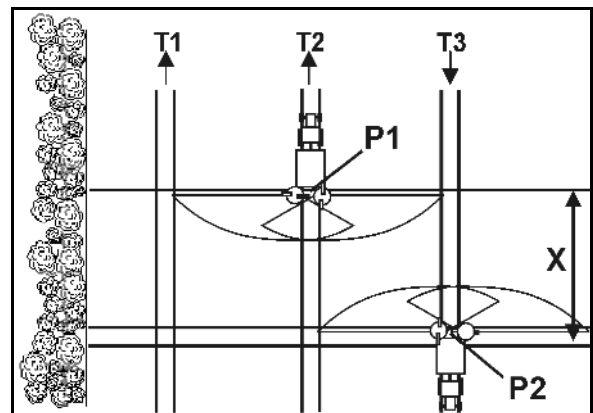

Fig. 46
- Open the slide gate after entering the tramline at point P1 (Fig. 46), when the spreader discs are at distance X from the tramline of the headland.
- Close the slide gate before leaving the tramline at point P2 (Fig. 46), when the spreader discs are located at the level of the first tramline of the headland